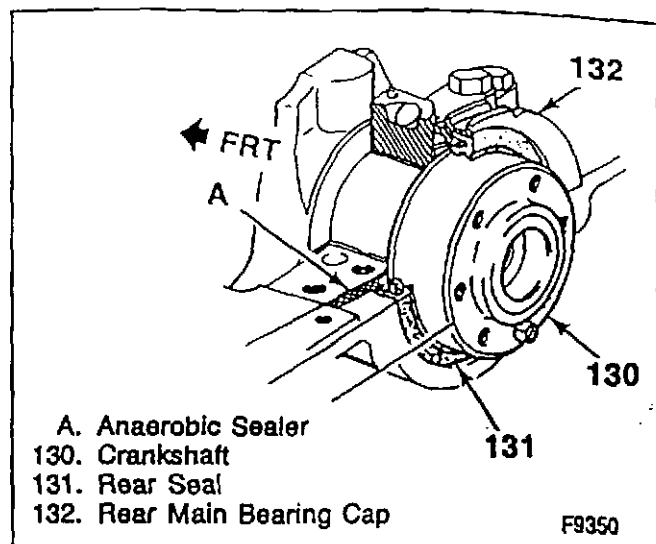

Figure 70—Applying Sealant to the Block (7.4L Engines)
- On 7.4L engines, apply anaerobic sealing compound to the rear bearing cap sealing face or to the rear bearing cap channel of the engine block, from the corner of the rear thrust bearing pocket to the edge of the channel as shown in figure 70. Do not allow any sealant on either crankshaft or rear oil seal.